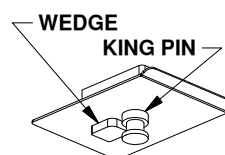
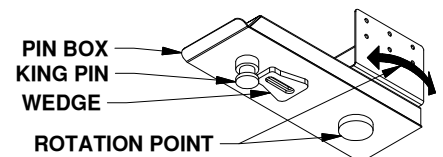

Figure G1: Capture plate.
Figure G2: Pin box with rotation point.
**WARNING:** Towing a trailer without a functioning pivot point between the hitch and trailer will cause significant damage to the hitch which may lead to serious injury or death. Some pin boxes such as a PullRite® SuperGlide capture plate remove the pivot point between a trailer and coupler and should not be used, see Figure G1. Pin boxes with a wedge that relocates the pivot point such as a Reese® Sidewinder or Reese® Revolution may be used, see Figure G2.